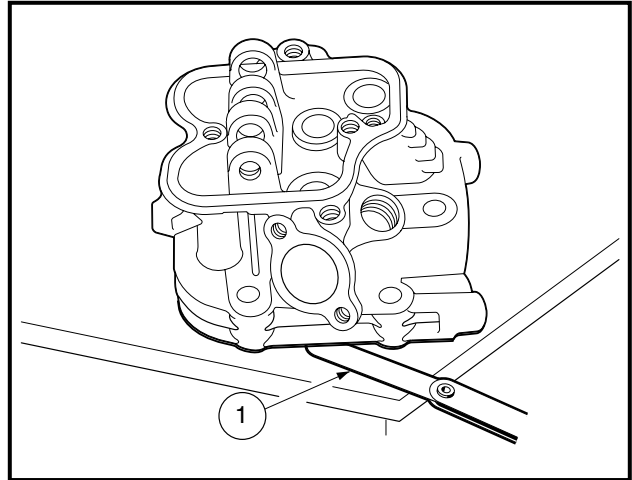

Figure 2-12 Check Flatness of Head Surface
4. Place the cylinder head on a surface plate (**Figure 2-12, Page 2-9**).
5. Measure the space between the surface plate and the head with a feeler gauge (1) to check the flatness of the head surface (**Figure 2-12, Page 2-9**).